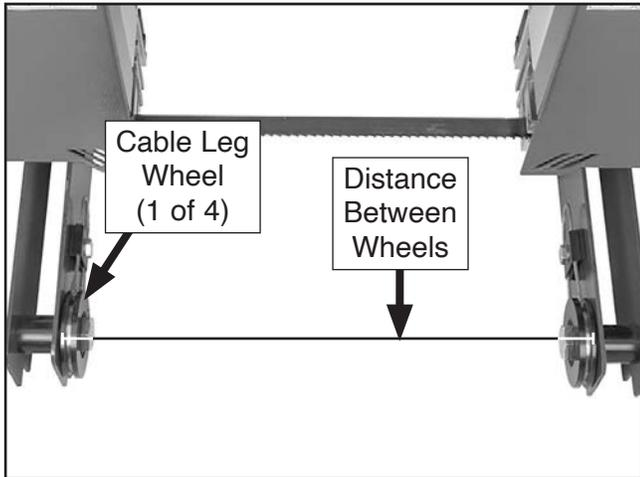

Figure 43. Location of carriage leg wheels (front shown).
44. Tighten (4) sets of fasteners securing carriage leg wheels (see **Figure 43**).
45. Measure distance between front carriage leg wheels (see **Figure 43**).